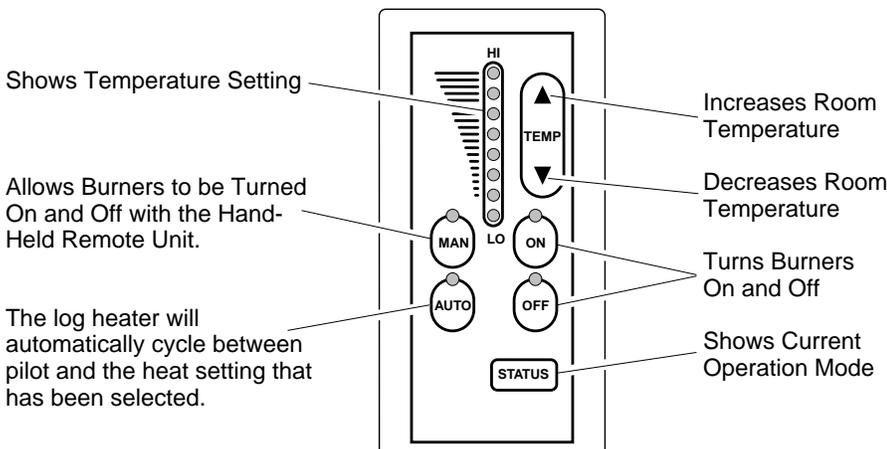

Figure 24 - Thermostat Hand-Held Remote Control Unit Selections (GHRCT only)
- 2b. Select the MAN (manual) or AUTO button on the hand-held remote control unit (see Figure 24, page 16).